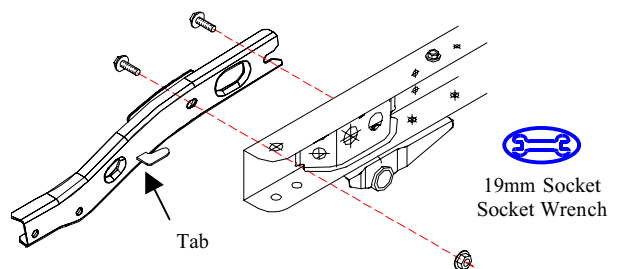

Fig. C1
-  1. Remove and discard the two (2) M12 bolts and one (1) M12 nut from each side of the vehicle frame that connect the bumper-mounting bracket to the frame. (Fig. C1)
- 2. Note the location of the small welded tabs on each of the brackets as these are noted in a later installation step. (Fig. C1)